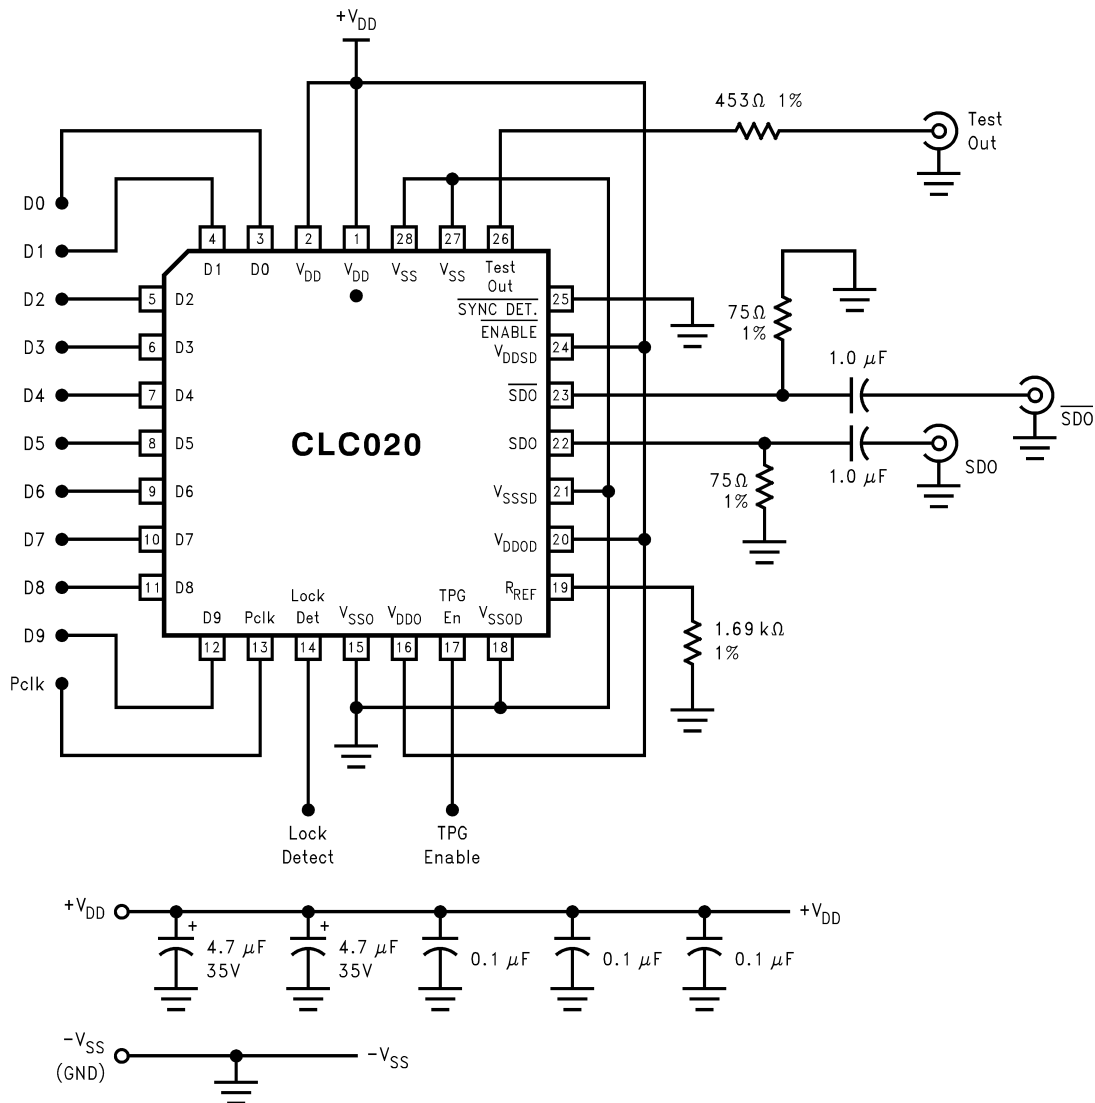

Figure 3. Test Circuit
(1) Typical values are stated for V_{DD} = +5.0V and T_A = +25°C.
(2) R_L = 75Ω, AC-coupled @ 270 Mbps, R_{REF} = 1.69 kΩ 1%, See TEST LOADS and Figure 3.
(3) CLC020 mounted in the SD020EVB board, configured in BIST mode (NTSC color bars) with P_{CLK} = 27MHz derived from Tektronix TG2000 black-burst reference. Timing jitter measured with Tektronix VM700T using jitter measurement FFT mode, frame rate, 1kHz filter bandwidth, Hanning window.
(4) Specification is ensured by design.
(5) Measured from rising-edge of first P_{CLK} cycle until Lock Detect output goes high (true).